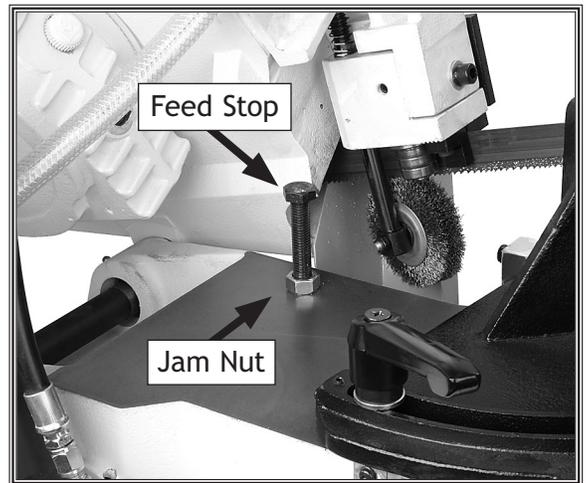

Figure 12. Feed stop.
1. Adjust the feed stop bolt and jam nut (Figure 12), so the bandsaw blade teeth are $\frac{1}{16}$ " below the vise table surface.